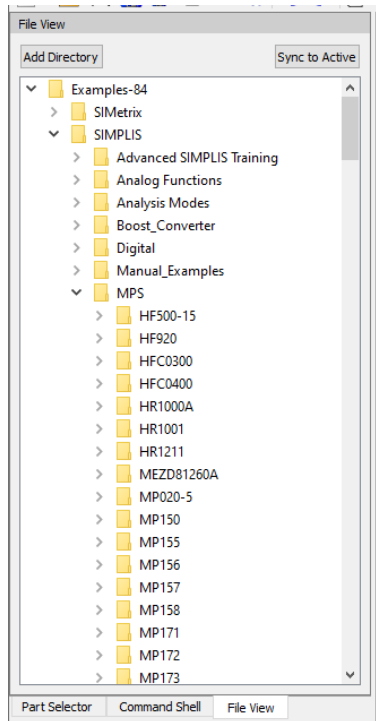

Figure 5: MP Smart Example Folder
2. The folder titled “MPS” contains pre-installed IC models, typical schematics, and example projects for various MPS products (see Figure 5). Expand and browse the file’s contents to find the desired MPS IC model example project.